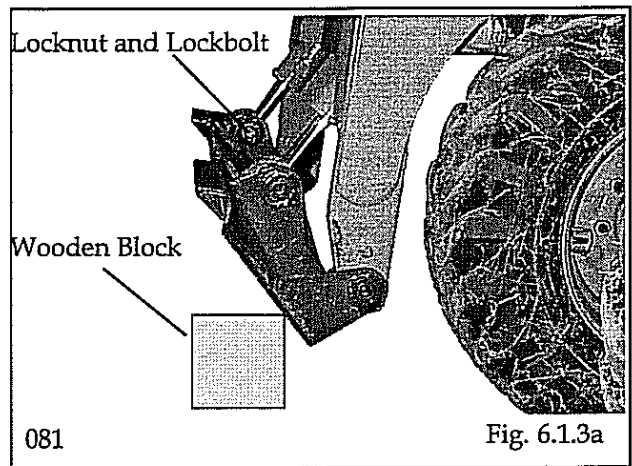

Fig. 6.1.3a
1. Start the engine. Raise the lift arms. Place blocking under the rear of the quick - tach frame is supported by the blocking (Fig. 6.1.3a).
4. Remove the locknut and lockbolt from the tilt cylinder rod end pins (Fig. 6.1.3a).